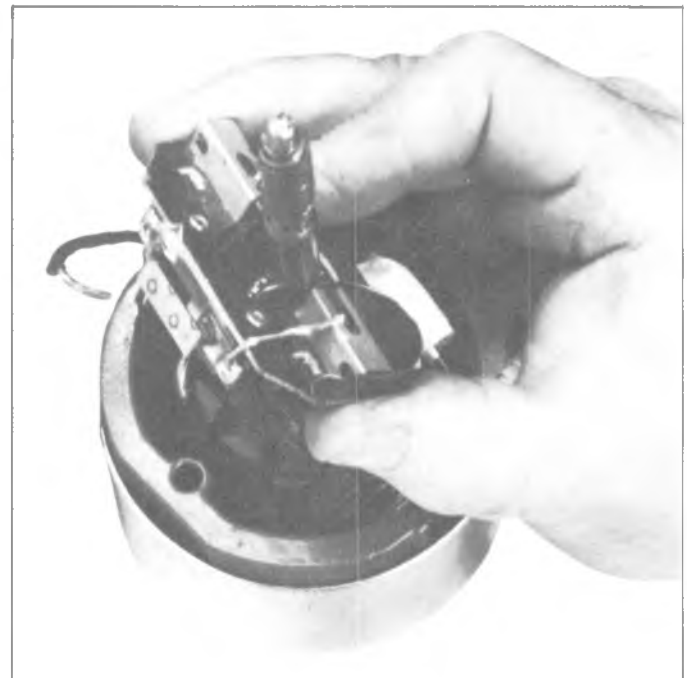

Fig. 8-32 - Removing Brush Holder
7. Holding the opposite brush from that retained in Step 6, carefully lift brush holder off mounting tabs far enough to clear armature commutator (fig. 8-32).
NOTE: Circuit breaker should be opposite field cross over splice connections (Figure 8-32).